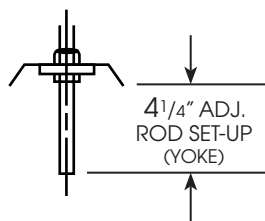

Figure 6
1. Remove yoke assembly from box and set-up adjustable rod to 4 1/4" dimension as shown in Figure 6.